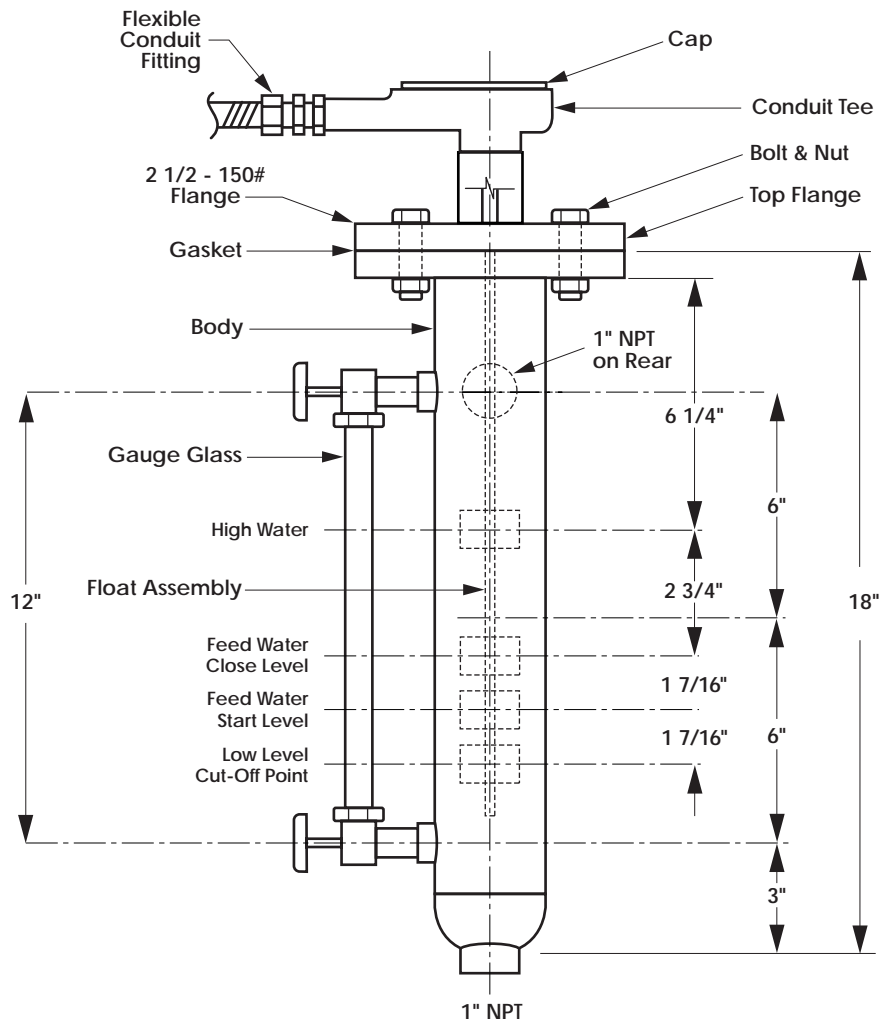

Figure 2: CEMLINE CORPORATION Stainless Steel Level Controller Schematic
15. Remove the four (4) bolts and nuts securing the top flange to the body of the unit (see Figure 2).